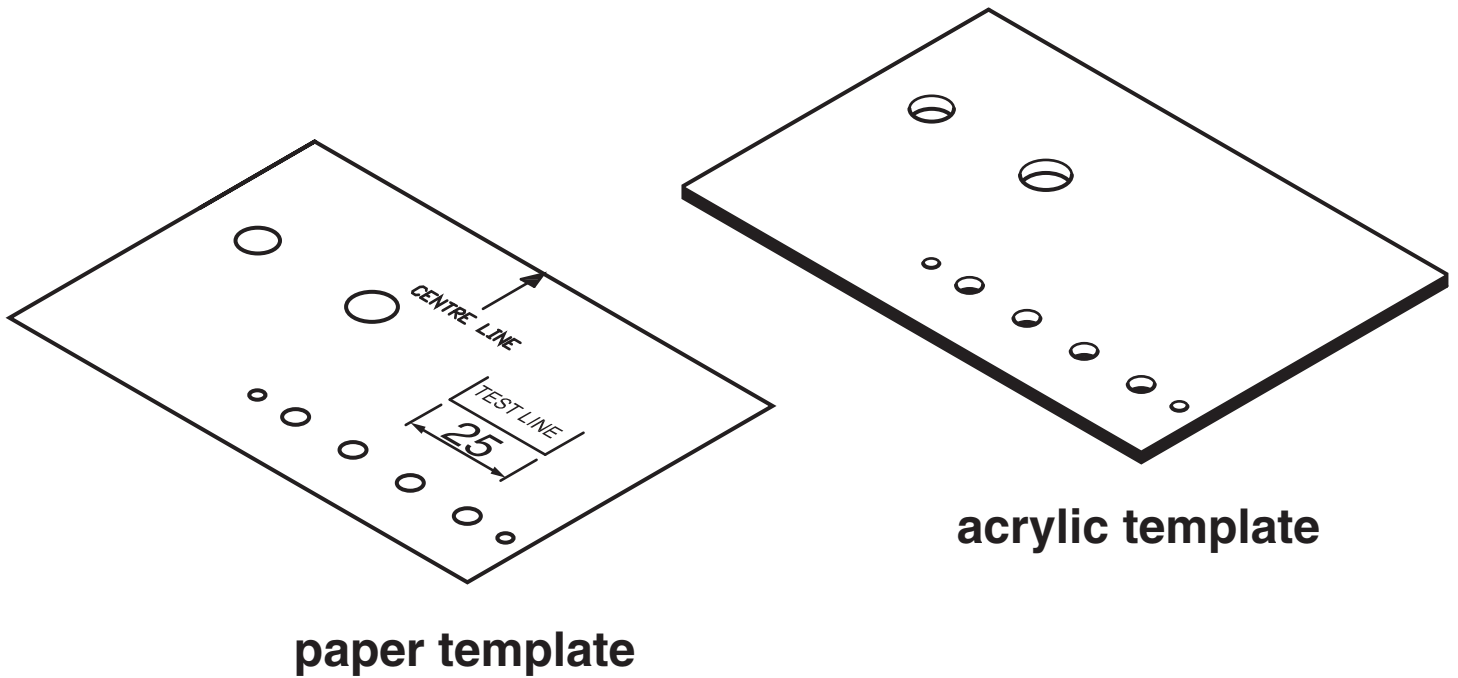

Fig. 2
- (c) Output from the CAD drawing can be printed as a paper template or used in a laser cutter for production of an acrylic template. Fig. 2 shows both outputs.